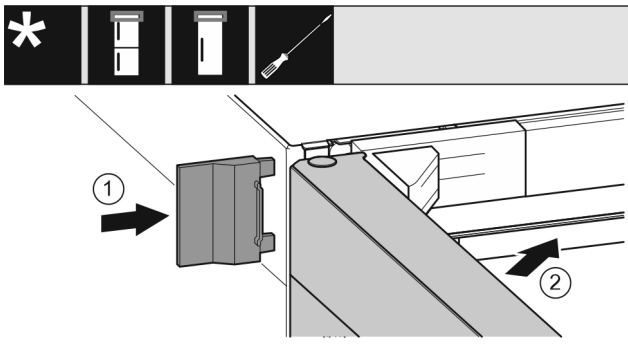

Fig. 29
- ▶ Push the outer cover Fig. 29 (1) on.
- ▶ Close the upper door Fig. 29 (2).